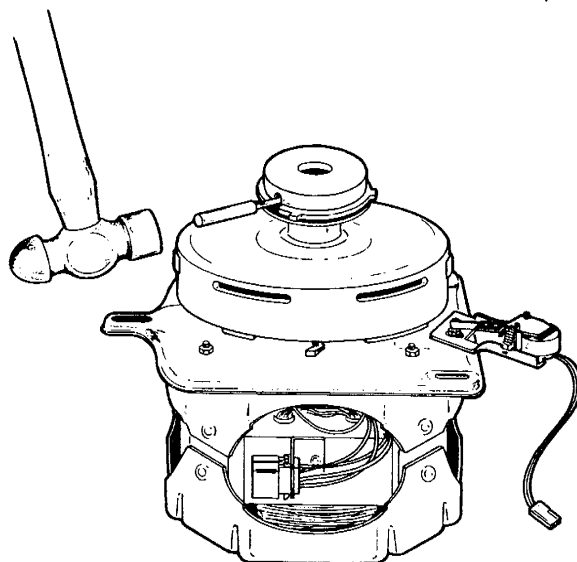

Figure 8 – Roll Pin Removal
1. Remove the clutch drive plate by using a WX5X147 drive pin tool to remove the roll pin holding the plate to the shaft extension, see Figure 8.